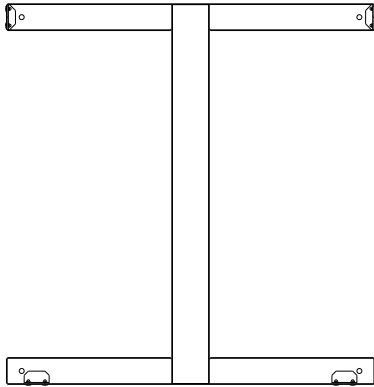

Fig. 3
- Choose a solid and plain wall and put the bracket in the position where you want to install the fireplace. Mark the holes with a pen using the holes in the mounting bracket as a guide (Fig. 3)